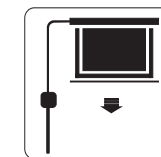

Figure 22
2. Turn the switch to position "=" to lower the screen; it will come down slowly. When it is all the way down, it will stop automatically (Figure 22) .